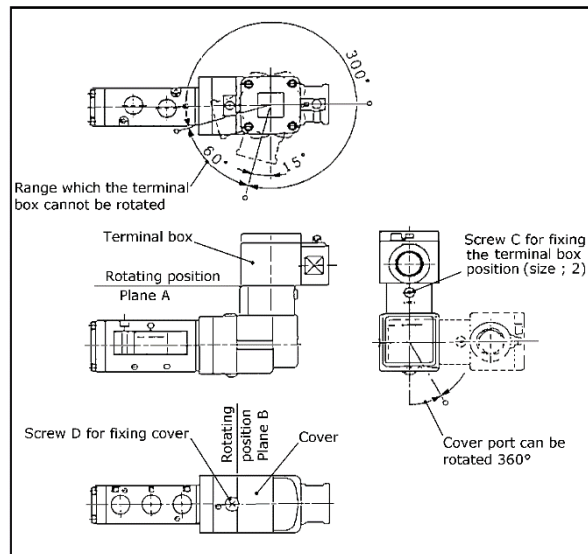

Figure 1
3.5 Electrical entry (see Figure 1)